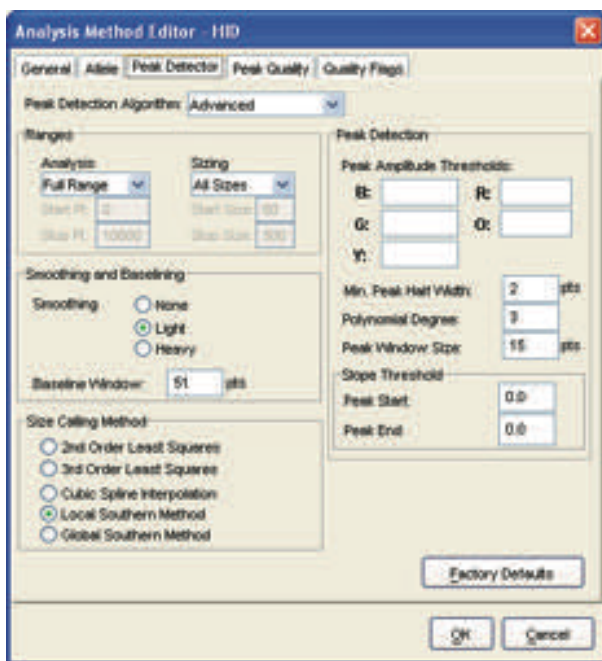

Figure 20. The GeneMapper® ID Software Peak Detector tab
10. Select the Peak Detector tab (Figure 20). You will need to optimize these settings. In-house validation should be performed.